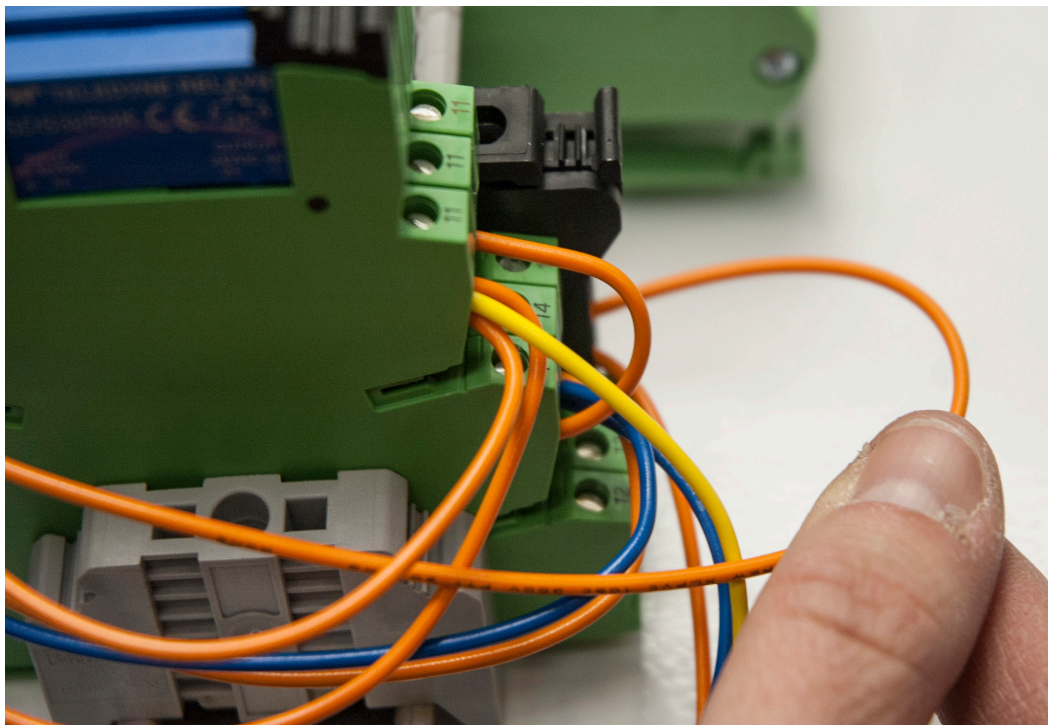

Figure 7
11. Add one end of the long orange jumper wire (19") to the right side of the old fuse block which is located on the same of the enclosure as the terminal board. See fig. 7.